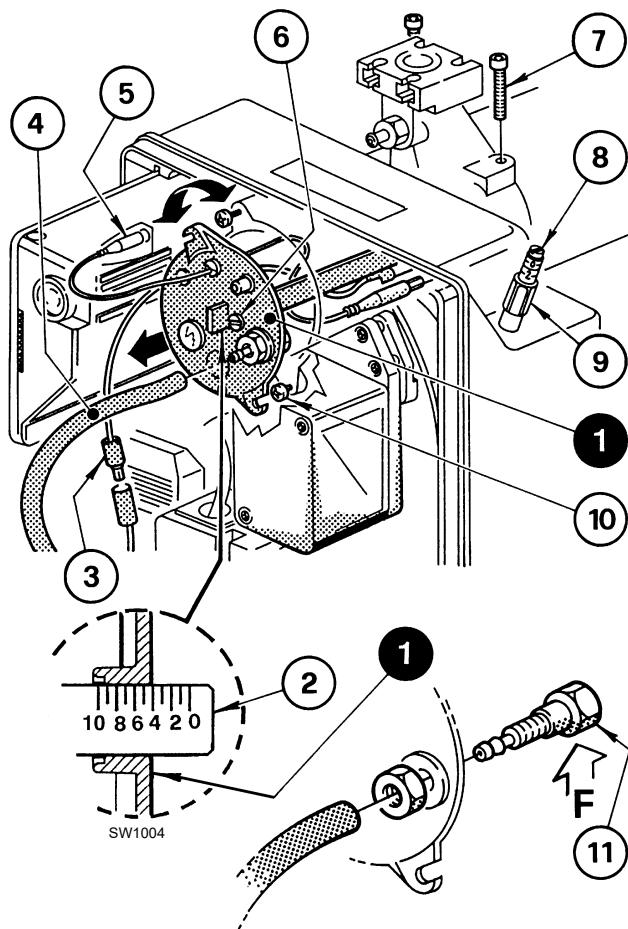

Fig. 11
This is carried out by turning the adjustment screw 6)(Fig. 11) clockwise or anti-clockwise until the notch on the regulating rod 2) lines up with the outside surface of the head assembly 1).
In Fig. 11 the head regulating rod is set to notch 4.
To remove the head assembly (Fig. 11) it is necessary to:
Reassemble with the reverse procedure to that described above, repositioning the head assembly 1)(Fig. 11) as it was originally.
Screw in the screws 7)(Fig. 11) all the way without locking them.
If the pressure test point (11) should become slack accidentally (Fig. 11) we recommend fixing it correctly ensuring that the hole (F)(Fig. 11) inside the head assembly 1)(Fig. 11) is facing downwards.